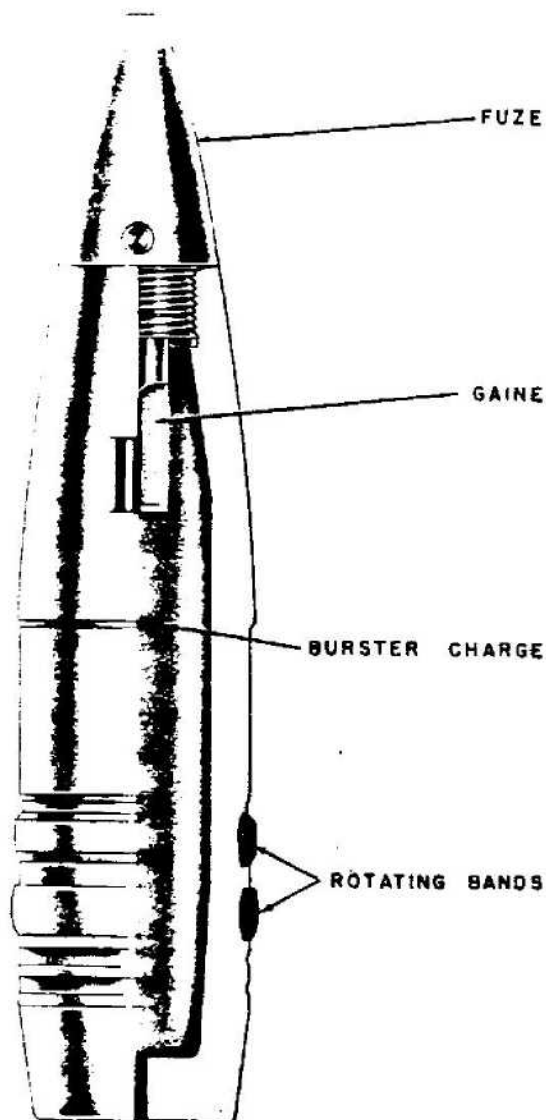

Figure 430—H. E. Shell for 88-mm Gun, 8.8-cm Sprgr. 43
**GERMAN NOMENCLATURE:** 8.8-cm 'Sprgr. 43. (See fig. 430.)